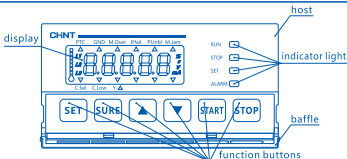

Figure 8 Schematic Diagram of the Panel
3.6 Schematic diagram of the panel: see Figure 8.